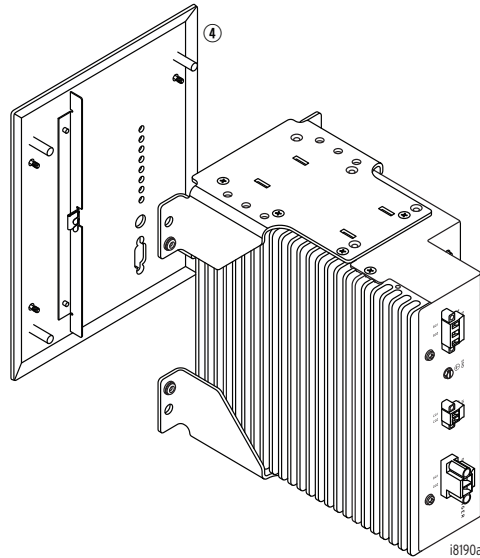

Figure 7 Removing/Installing the Front Bezel Assembly
- Step 2. Loosen the four (4) captive screws for the panel-mount bezel. Discard captive screws and front panel (see *Figure 7*).